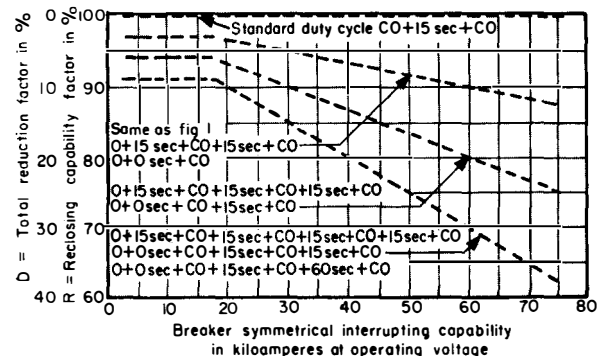

FIG. 2 Examples of Popular Reclosing Capabilities
**Step #3** The symmetrical interrupting capability of the breaker for the operating voltage and duty cycle desired is now determined by multiplying the step #1 symmetrical interrupting capability by reclosing capability factor R from Fig. 2 (for duty cycles listed).